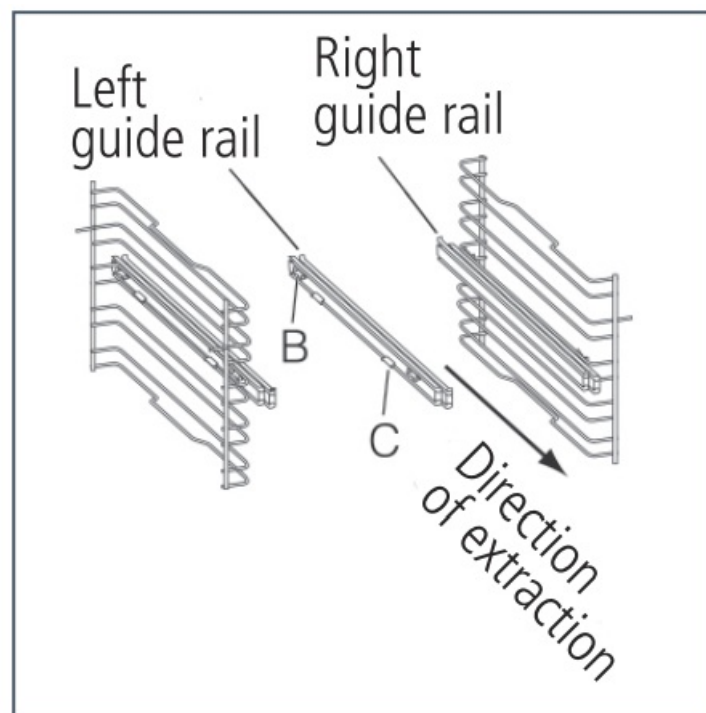

Figure 1
- Choose which shelf to use with the telescopic runner. Pay attention to the direction in which the runner is to be extracted, position joint on the frame (see Fig.1).
be extracted, position joint 'B' and joint 'C' on the frame (see Fig.1).